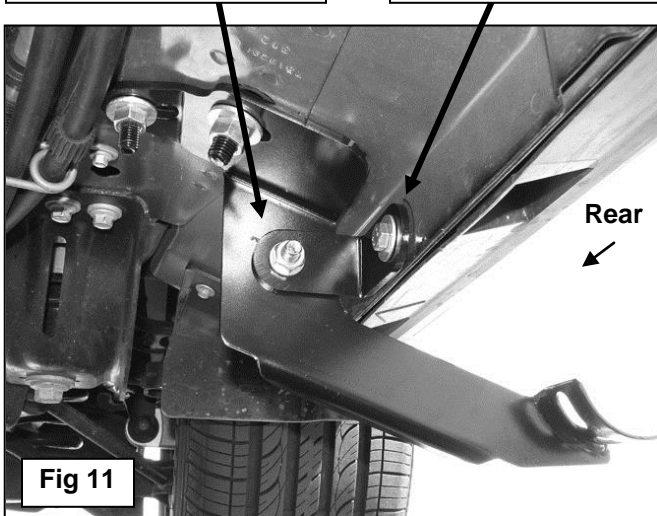
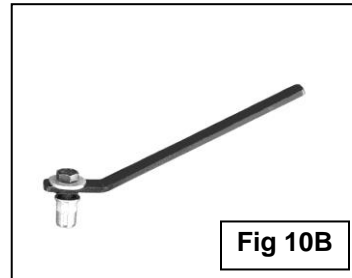

Fig 11
Fig 10B
11. Assemble the Threaded Insert installation tool as pictured in **Figure 10B**. Hold the handle and push the insert into the drilled hole in the pinch weld. **NOTE:** Insert must fit snug in hole. If necessary, use a small hammer to carefully tap the insert into the hole until the rim on the insert is flush against the pinch weld. Firmly hold the tool handle and tighten the hex bolt in the tool to expand the insert in the hole. Continue until threads are flush with the top of the insert, **(Figure 10C)**. Remove the tool and hardware. Bolt the Support Bracket to the threaded insert with (1) 8mm x 30mm Hex Bolt, (1) 8mm Flat Washer and (1) 8mm Lock Washer, **(Figure 11)**. Tighten hardware at this time.
Use the assembled tool (Fig 10B) to hold the Insert fully in place. Tighten hex bolt in Insert until threads are pulled up to the top (rim) of the insert